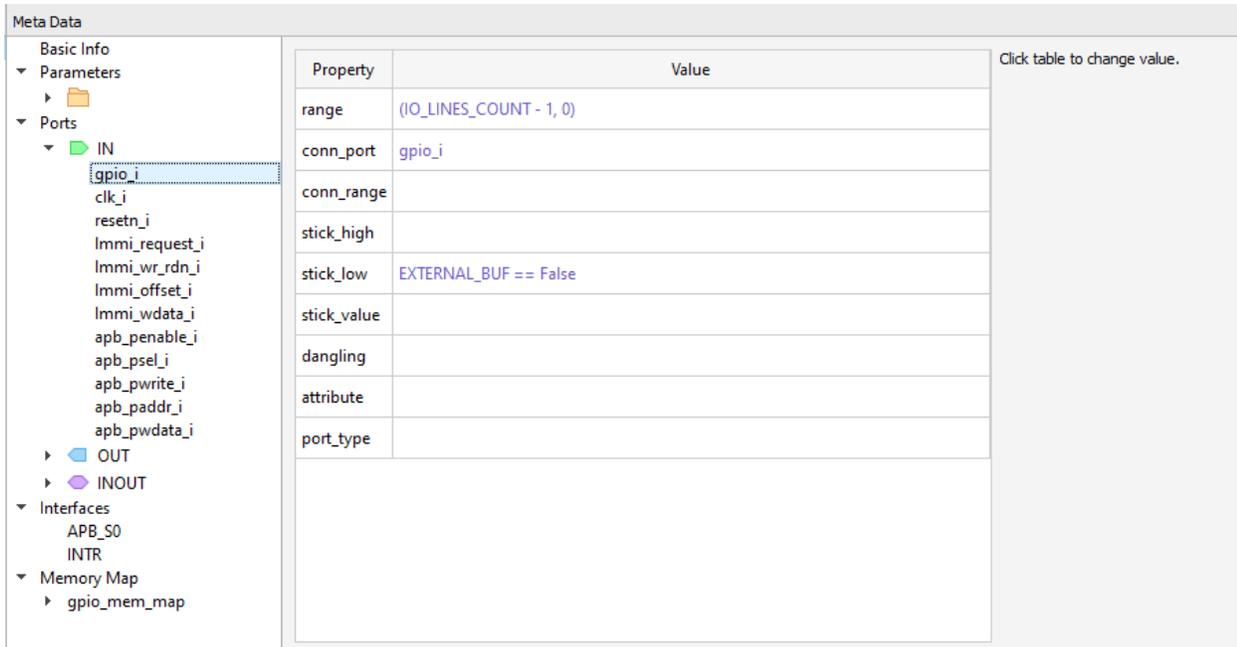

Figure 3.19. Configure an IN Port
- Configure all properties of the IN port as desired (Figure 3.19). Property listed in bold must be configured. The details of each property is shown in Table 3.2.